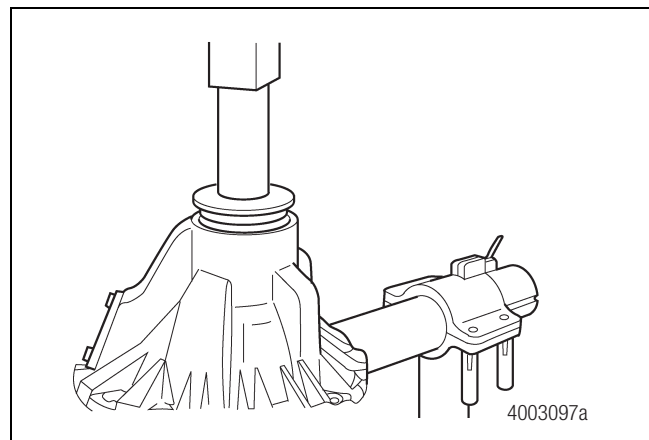

Figure 4.16
4. Use a pinion bearing cup driver, tool drawing number 5023, to install the outer bearing cup into the carrier housing. Figure 4.16. Refer to Section 8, Figure 8.3, for instructions to build the tool.